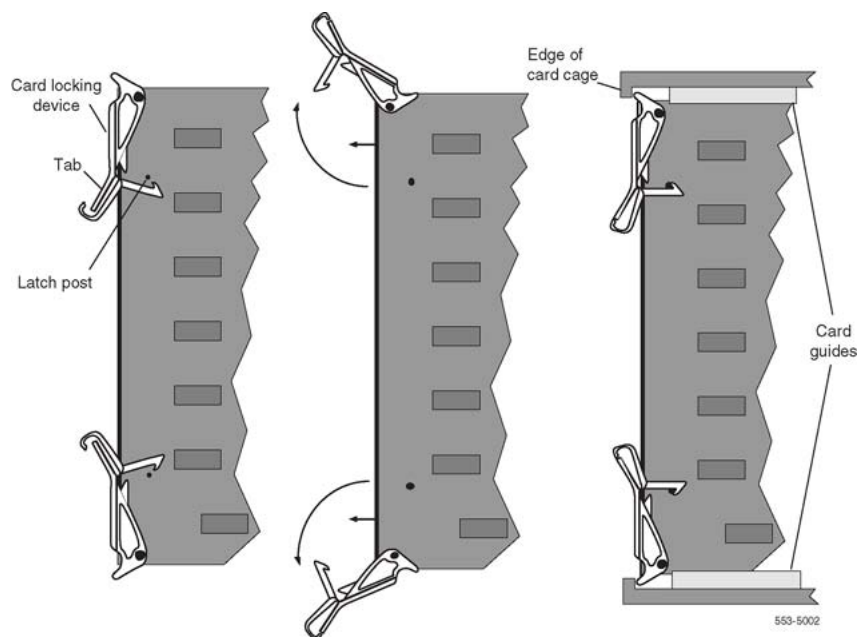

Figure 18: Installing the circuit card in the card cage
6. Squeeze the ends of the locking devices on the card and pull the tabs away from the latch posts and faceplate (see Figure 18: Installing the circuit card in the card cage on page 80).
7. Insert the card into the card aligning guides in the card cage. Gently push the card into the slot until you feel resistance. The tip of the locking device must be behind the edge of the card cage (see Figure 18: Installing the circuit card in the card cage on page 80).